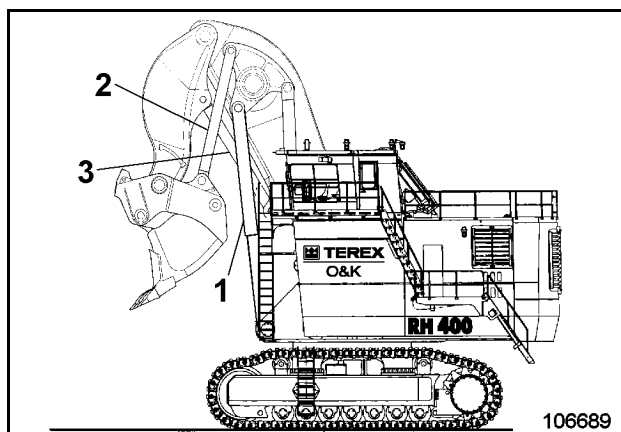

Fig. 2-85:
- Raise the equipment (Fig. 2-85:).